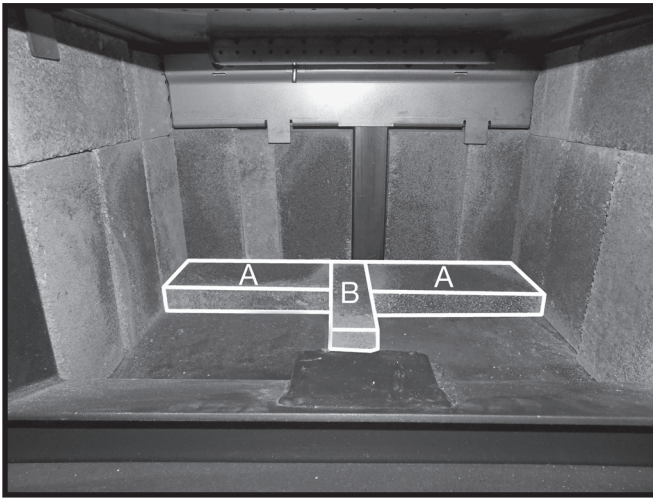

Figure 19: Back row floor A and B bricks.
6. On the firebox floor, place an "A" brick in each corner and insert one "B" brick as shown in Figure 19.